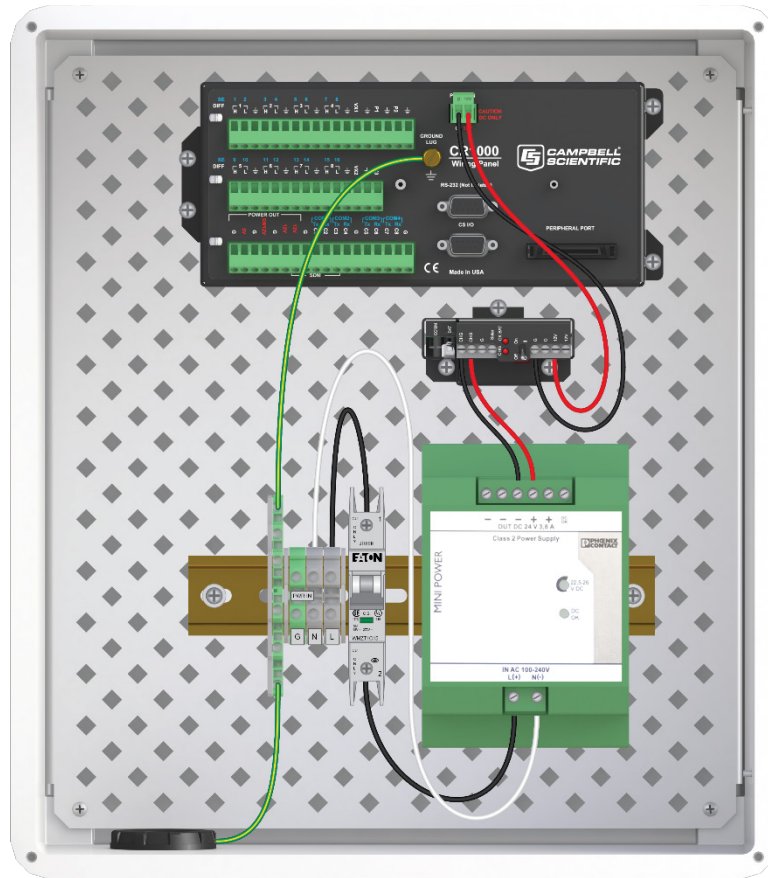

FIGURE 5-9. Connecting the charging regulator to the datalogger
- Use 16 AWG red and black wires to connect the CH150 or CH200 +12 and G terminals to the G and 12V on the datalogger (FIGURE 5-9). Use the red wire for the 12V terminals and the black wire for the G terminals.